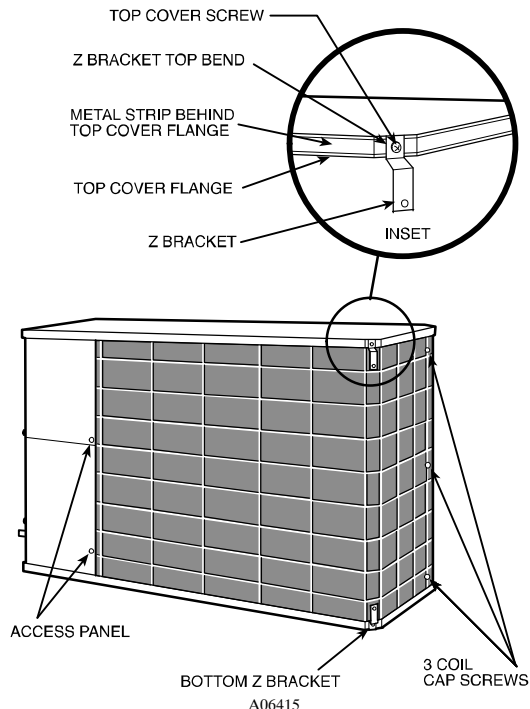

Fig. 1 – Installing Z Brackets
1. Remove existing screw from outdoor unit top cover. See Fig. 1.
2. Position top Z bracket between grille and top cover. Be sure shorter top bend of Z bracket slips between top cover flange and metal strip behind top cover flange. See Fig. 1.
4. Install bottom Z bracket in basepan corner, following same procedures. Be sure shorter top bend of Z bracket slips between basepan flange and metal strip behind basepan flange. See Fig. 1.
1. Remove 3 screws from coil cap. See Fig. 1.
2. Install end baffle flange to Z bracket and use 3 screws removed in Step 1 to secure one end. See Fig. 1 and 2. End baffle flange fits against coil cap. Tighten screws snugly. Do not overtighten.
1. Remove 2 screws from access panel. See Fig. 1.